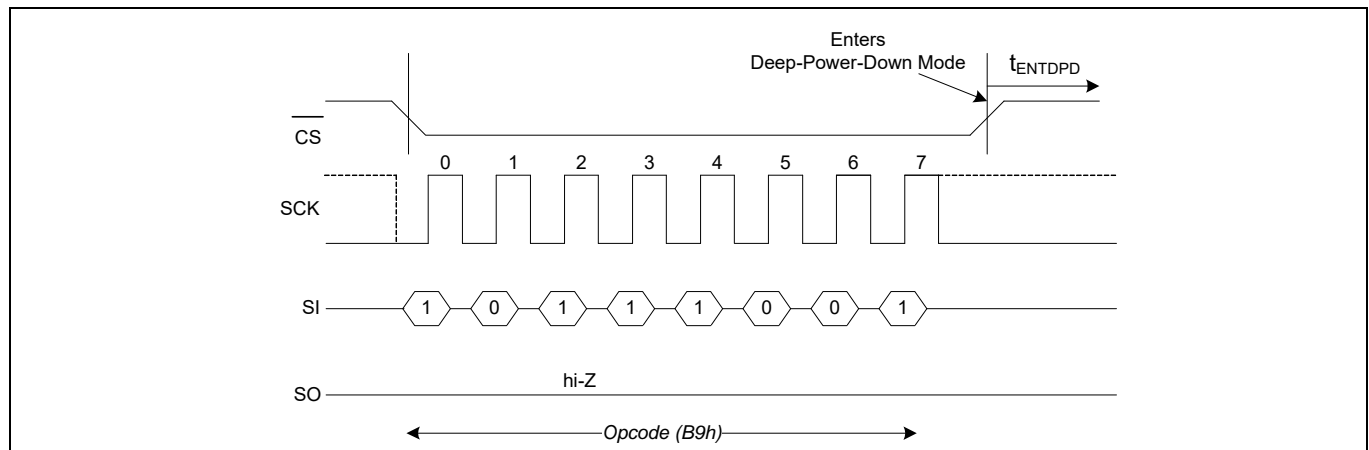
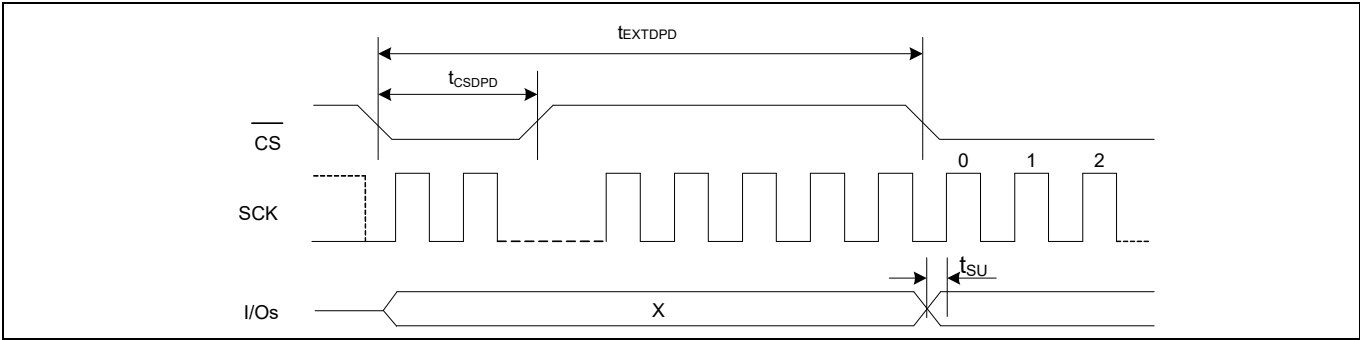

Figure 99 DPD entry in SPI mode
Figure 102 DPD exit in SPI mode
A $\overline{\text{CS}}$ pulse-width of t_{CSDPD} or hardware reset exits the DPD mode after t_{EXTDPD} time. The $\overline{\text{CS}}$ pulse-width can be generated either by sending a dummy command cycle or toggling $\overline{\text{CS}}$ alone while SCK and I/Os are don't care. The I/Os remain in hi-Z state during the wakeup from deep power down. Refer to Figure 99 for DPD entry and Figure 102 for DPD exit timing.
- The timing details shown in the Figure 99 are applicable as is in DPI and QPI modes.